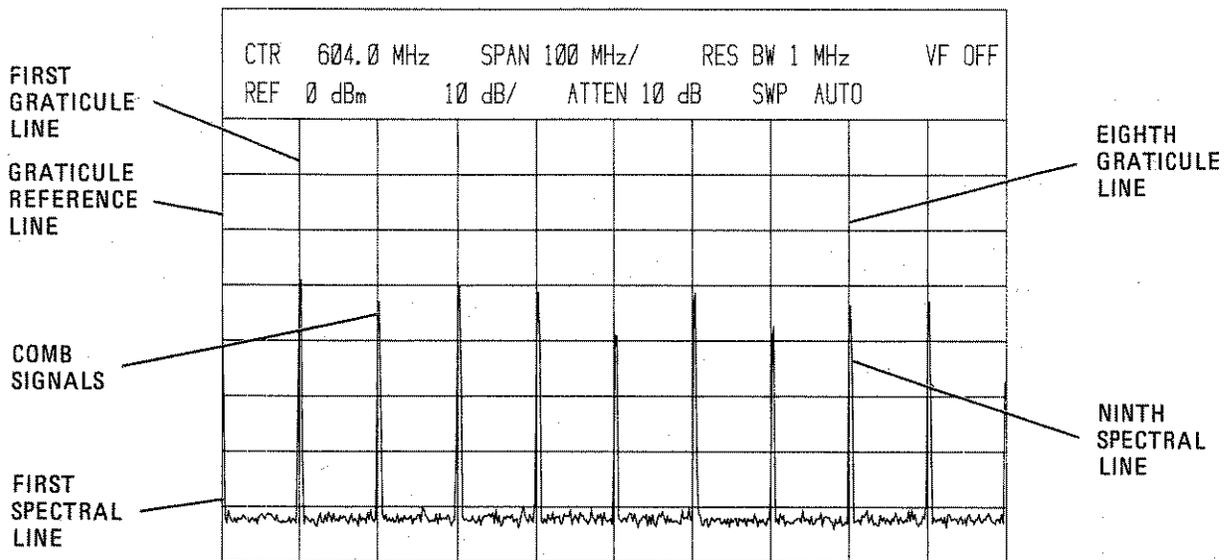

Figure 2-5. Span Width Accuracy Measurement
4. Note position of ninth spectral line (comb tooth). It must be on eighth graticule line ± 0.4 division. (See Figure 2-5.)